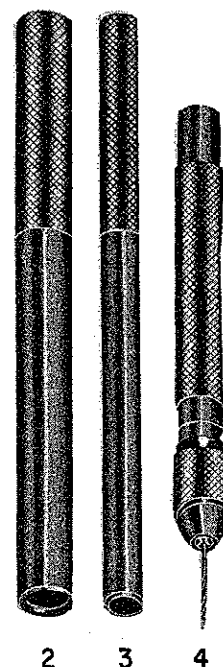

Figure 4-6. Tooling, Slick Harness
4-17. Cut the individual cable to the required length shown in Table 4-1. Make a mark $7/8$ " from the magneto end and 1" from the spark plug end. Flare out the copper shielding and insert the stripping tool (figure 4-6) beyond the mark. Do not allow the shielding to fold under while inserting tool. With a sharp knife, and using a rolling motion while cutting, cut and remove the copper shielding at the marks. Remove the stripping tool.
4-18. At both ends cut the exposed insulation back from the end 1/16 inch. Do not pull insulation from wire, remove by turning clockwise. Trim the coiled conductor, conductor should protrude approximately two coils. Using the pin vise (figure 4-6) drill and remove silicone rubber from the inside of the coiled conductor, this will facilitate installation of the electrode screw in a later step.
4-19. SPARK PLUG END. Install hex ferrule (8) over lead with flange end toward end of wire. After assembly of this ferrule, bend and rotate the silicone insulation to flare out the copper shielding. Install drive ferrule (9) over insulation and under shielding to within 1/16 inch of flange of hex ferrule. Slide hex ferrule over drive ferrule until tight. Mount drive plate (figure 4-6) in a bench vise. Set hex ferrule in slot of drive plate and, using the drive tool (figure 4-6) drive the drive ferrule flush against the hex ferrule. Install spark plug nut (7) on cable with threaded end toward ferrules.
4-21. BOTH ENDS. Clamp threaded end of electrode screw (3 and 10) in pin vise (figure 4-6) and assemble the screw into the center of the coiled conductor. Turn counter-clockwise and push the screw until the tapered pin portion is flush with the insulation. Place sleeve (2 and 11) over insulation and turn spring (1 and 12) onto electrode screw until the end of the screw is flush with the first large coil of the spring.